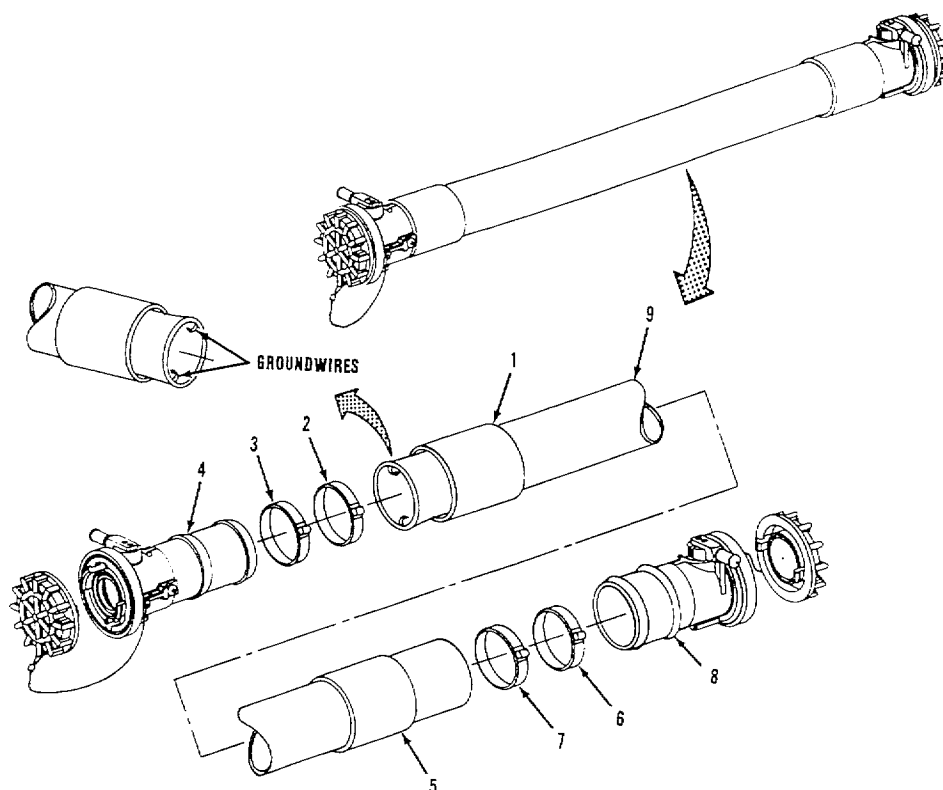

Figure 4-7. 2-Inch Fuel Hose Repair.
a. Disassembly. Refer to figure 4-7.
- (1) Slide back rubber sleeve (1) from top of clamps (2 and 3).
- (2) Cut clamps (2 and 3) from hose (9).
- (3) Remove valved dry break coupling assembly (4) from end of hose (9).
- (4) Slide back rubber sleeve (5) from top of clamps (6 and 7).
- (5) Cut clamps (6 and 7) from hose (9).
- (6) Remove valved dry break coupling assembly (8) from end of hose (9).
c. Inspection. Refer to figure 4-7.
- (1) Inspect valved dry break coupling assemblies (4 and 8) for cracks, corrosion and damaged coupling ends.
- (2) Inspect hose (9) for cuts, tears, punctures, bulges and delamination.
- (3) Inspect ends of hose (9) for damaged or missing ground wires. Perform continuity test of ground wires from one end of hose to the other. Continuity must exist.
- (4) Inspect ground wires at both ends of hose (9). At least 1/2 inch of wire must be exposed. If required, trim back hose material to obtain correct wire length.
- (1) Replace damaged components and all mandatory replacement parts.
- (2) Repair valved dry break coupling assemblies (para 4-18).
e. Assembly. Refer to figure 4-7.
- (1) Slide sleeve (5) onto hose (9) and position it about 12 inches back from end of hose.
- (2) Fold ends of grounding wires into hose (9).